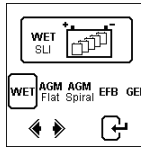

Fig.27
2. Press  key and the screen will show as Fig.27 below:
- Pressing the key at any moment will exit and return back to the main menu screen (Fig.27)